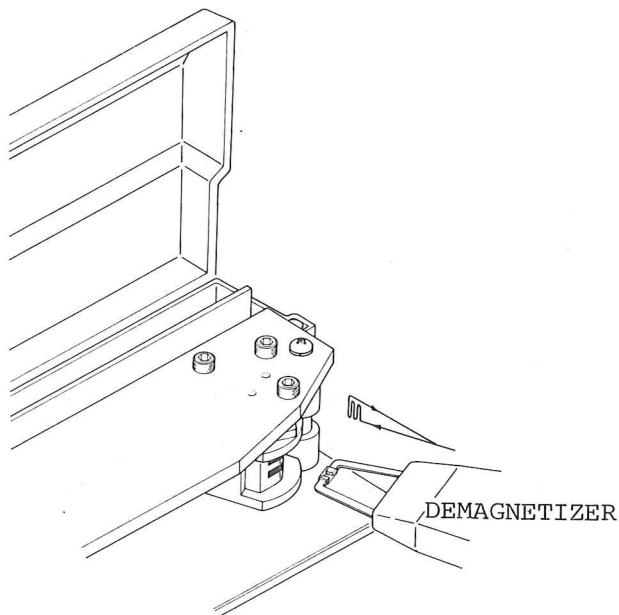

Fig. 2-2 Demagnetizing
5. Slowly move the demagnetizer tips close to the head, lightly touch the demagnetizer tips to the face of one head stack and slowly move the tips up and down the stack several times. Then slowly withdraw the demagnetizer as shown in Fig. 2-2